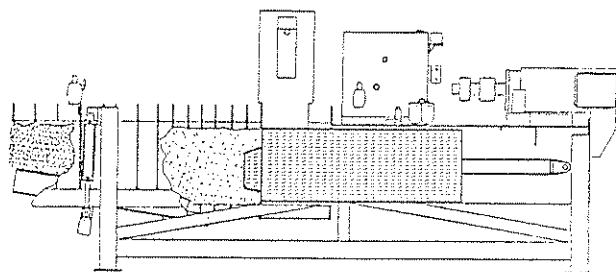

Fig. 6 Advancing plunger
6. LIMIT SWITCH 2 RELEASED The advancing plunger releases limit switch 2 (LS-2) and relay 5 (RL-5). The plunger continues to advance into the chamber, compacting the product, and providing a surface for the incoming product to fall upon (fig. 6):